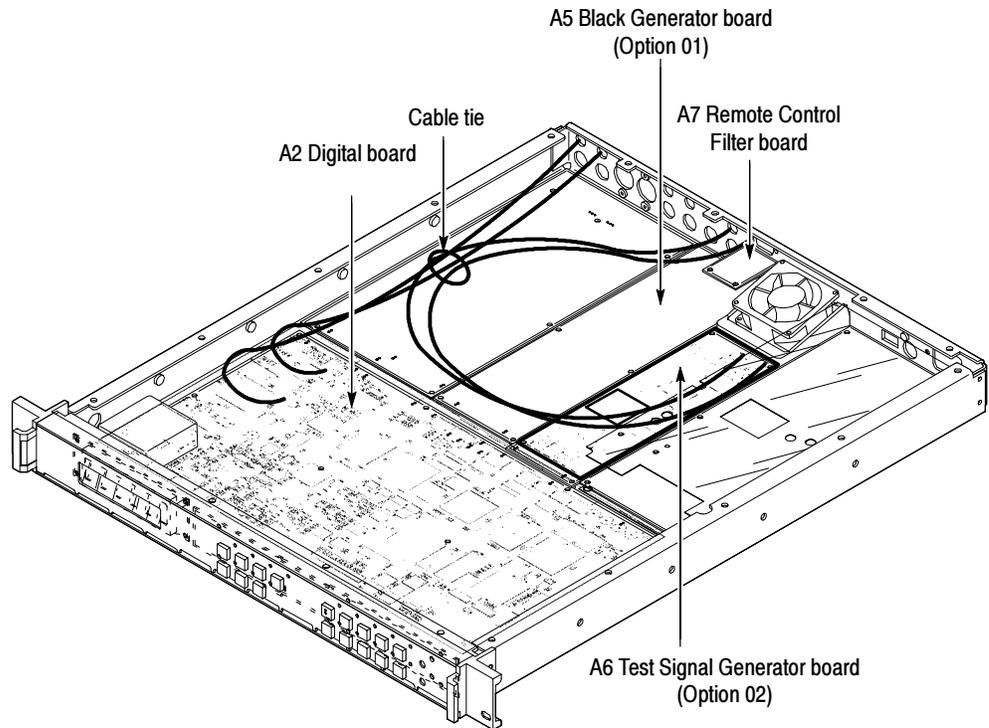

Figure 1: Circuit board locations
9. Install the cable tie around the two coaxial cables and around the coaxial cables located near the left side of the instrument. The cable tie will restrain the cables in a position away from the Power Supply. Figure 1 shows the location to install the cable tie.